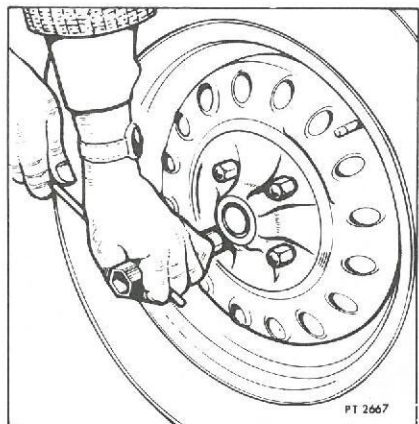

Fig. 3
3. Using the wheel nut spanner, slacken slightly the wheel nuts (Fig. 3).